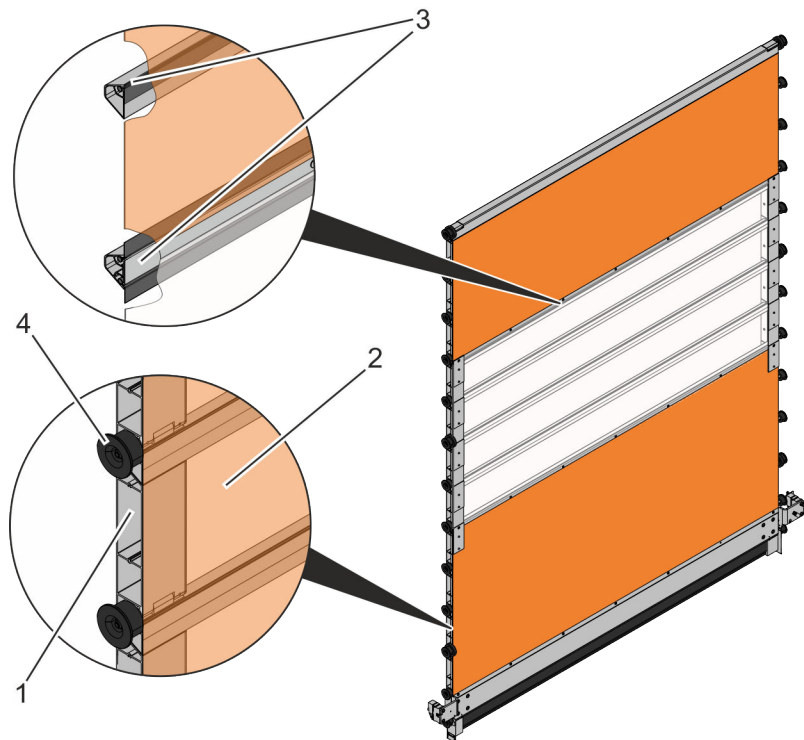

Fig. 58: Door leaf
The door leaf is assembled from extruded aluminium profiles (keder profiles) which are kept at the correct spacing by hinge chains (Fig. 58/1) attached at the sides.
0.6 mm thick PVC-coated polyester fabric (PES fabric) (Fig. 58/2) is installed between the keder profiles as the filling.
Keder (Fig. 58/3) are welded to the PES fabric, thereby connecting the PES fabric and the keder profiles/laths.
This ensures the stability of the door leaf. The spacing created by the hinge chains prevents contact between the keder profiles/laths. They are thus free from wear. The forces for opening and closing the door system are transmitted via hinges. Ball-bearing mounted rollers (Fig. 58/4) keep the door leaf firmly in the guides in the horizontal direction.